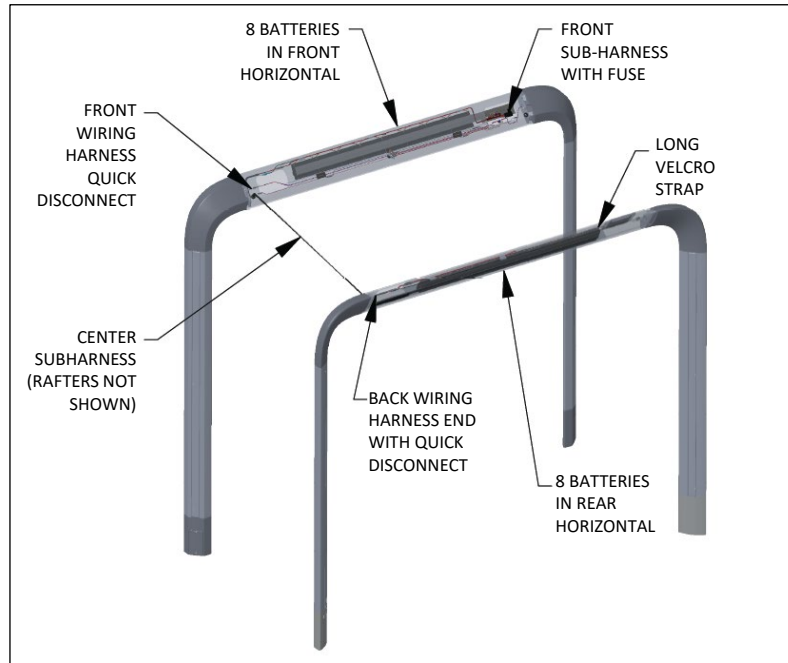
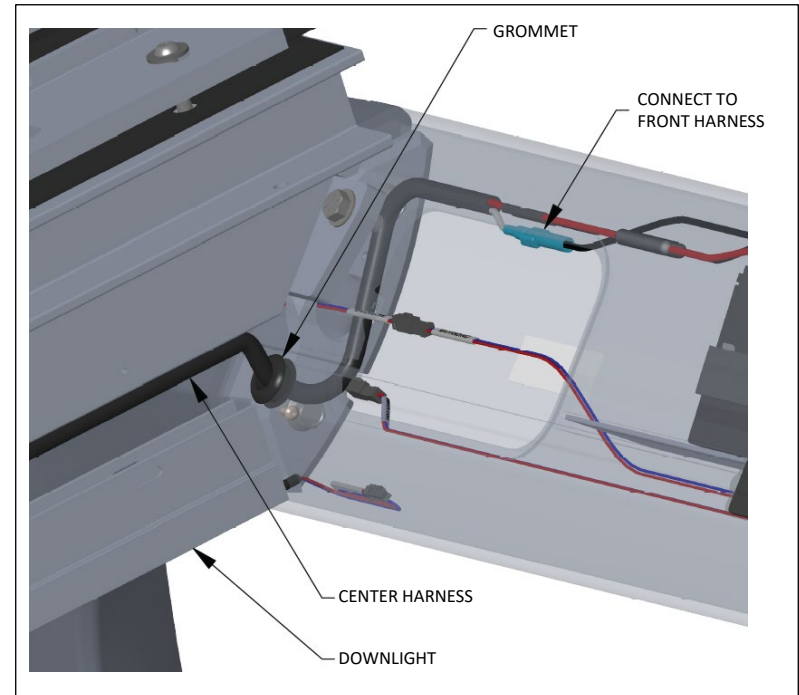

Fig. F6 – wiring harness locations
Fig. F7 – jacketed cord install detail, rear right post
3. Connect center sub-harness to end of front harness and end of back harness, routing through grommet, see Fig. F6. Run harness wiring along bottom of left rafter, see Fig. F7. Install downlight (step 4) as shown in Fig. F7 to secure harness in place.
4. First rafter downlight: make connection at front horizontal to quick disconnect. Push rafter light connection through grommet. Grommets may be removed to push wires through, if necessary, and then be reinstalled. See Fig. F7. Using a 3/32" hex key, attach downlight to rafter using (6) #8-32 x 5/16 socket button head cap screws, located in hardware pack #62599. Do not overtighten screws.